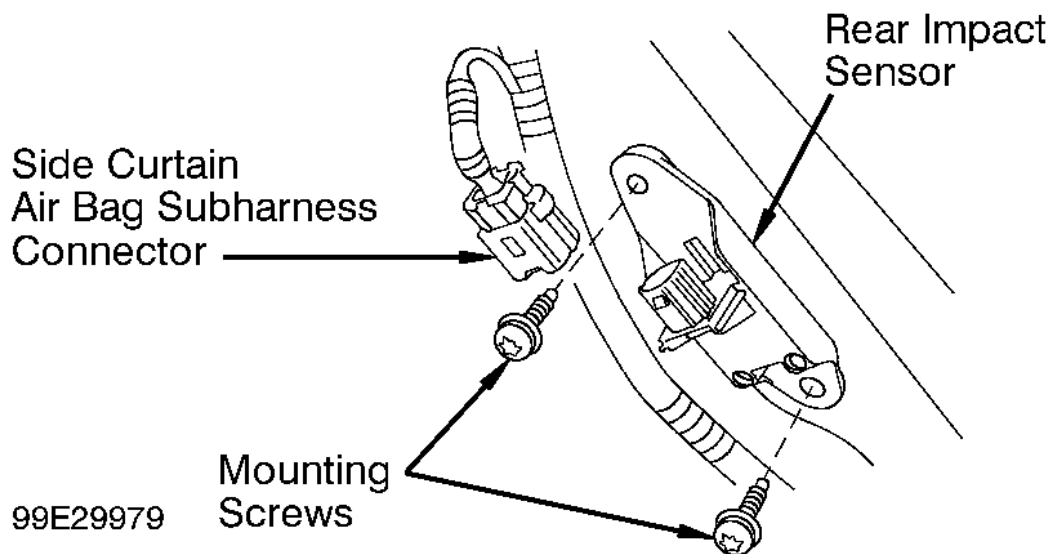

Fig. 23: Identifying Rear Impact Sensor
2. Disconnect rear impact sensor from side curtain air bag subharness. Using T30 Torx bit, remove mounting screws and rear impact sensor. See **Fig. 23** .